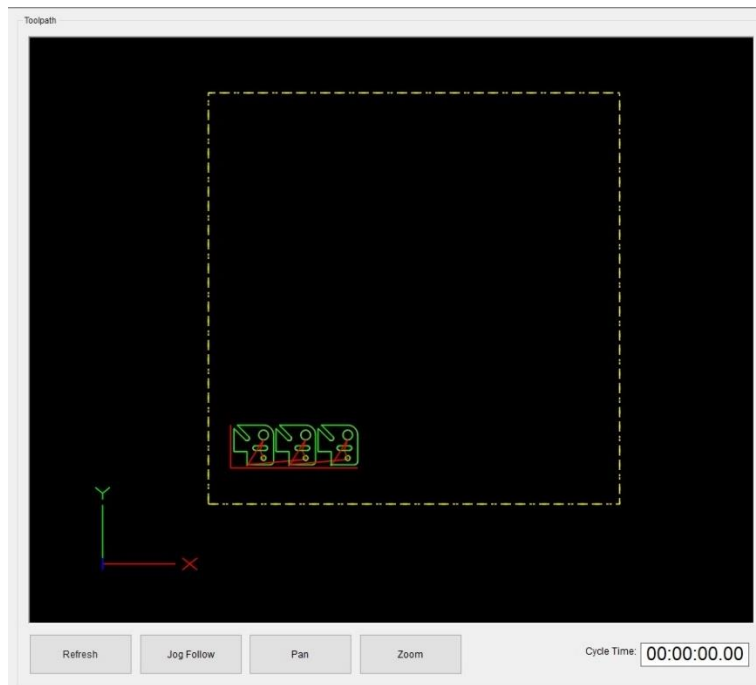

Fig 62 Tool path screen
1. The tool path tab (Fig 62 (1)) allows the operator to view the tool path and associated controls.